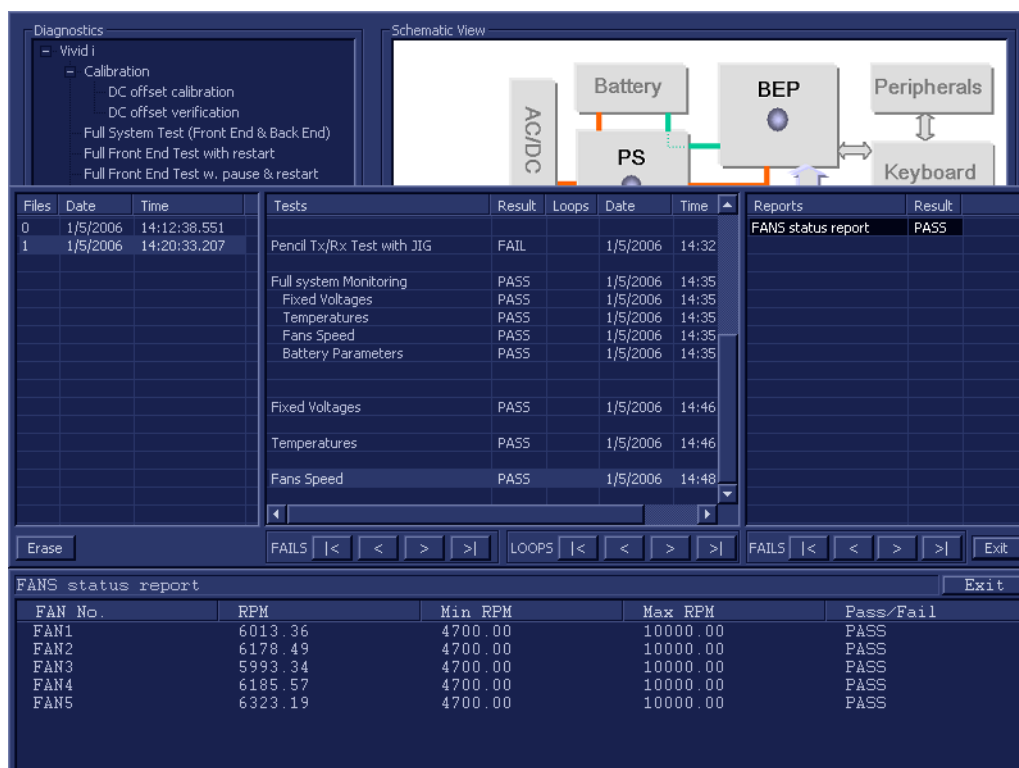

Figure 7-69 View Test Log - Fans Speed Test
- the View Test Log window opens automatically, listing all tests performed and showing details of which tests passed or failed, as shown in the example in Figure 7-69.
- 7.) Check that the test passed and that result values for each fan are within the pre-defined *Max* and *Min* limits, as shown in Figure 7-69.